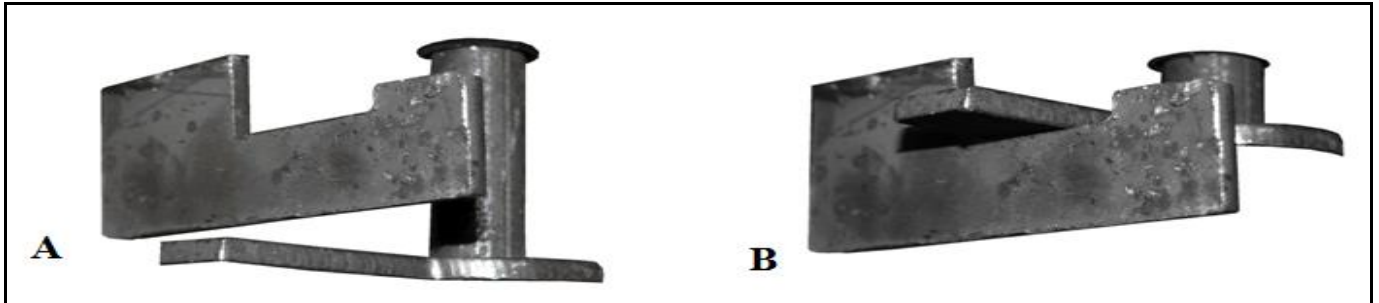

Fig. 5.1. Switching valve inside the boiler.
Switching valve (6) when burning firewood logs must be lowered (see figure 5.1. A.), when coal is burning – it must be lift up (fig. 5.1. B). When loading fuel, the air distribution (9) must be lifted up; therefore take a ring at the cable end (12) hanging in the right above the firebox doors, pull down and put on a hook (13).